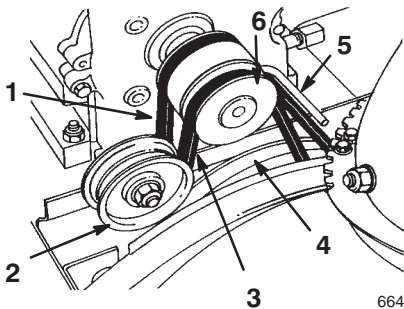

Figure 25
1. Flange-head bolt (2)
5. Loosen the belt guide (Fig. 25).
6. Remove the auger/impeller drive belt from the engine pulley and the large auger/impeller pulley (Fig. 25).
11. Remove the traction drive belt from the engine pulley and the large traction pulley (Fig. 25).
13. Loop the belt over the engine pulley, ensuring that the belt is on the inside of the belt guide (Fig. 25).
18. Install the auger/impeller drive belt around the large auger/impeller pulley and engine pulley, ensuring that the belt is on the inside of the idler pulley and the belt guide (Fig. 25).
4. Loosen the belt guide (Fig. 25).
5. Remove the auger/impeller drive belt from the engine pulley and the large auger/impeller pulley (Fig. 25).
6. Install a new belt around the large auger/impeller pulley (Fig. 25).
7. Loop the belt over the engine pulley, ensuring that the belt is on the inside of the idler pulley and the belt guide (Fig. 25).